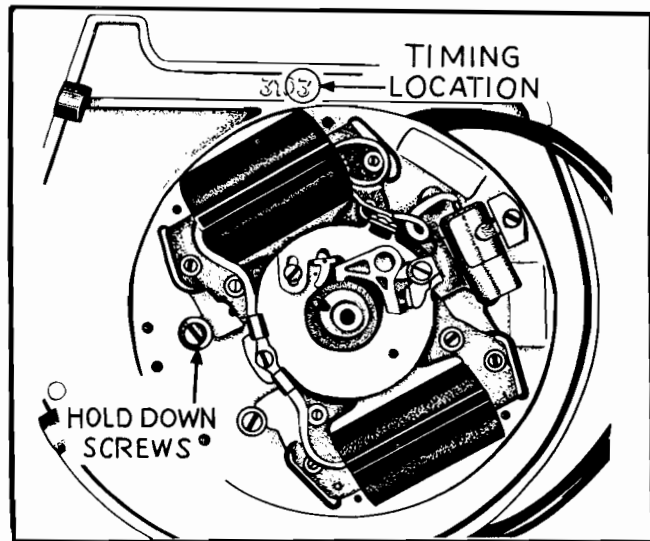

Figure No. 24—Timing Location for Scintilla Magneto
2. The plate should be rotated until the right-hand corner of the ignition coil is slightly to the left of the right-hand figure three on the bearing plate. (See Figure No. 24.)